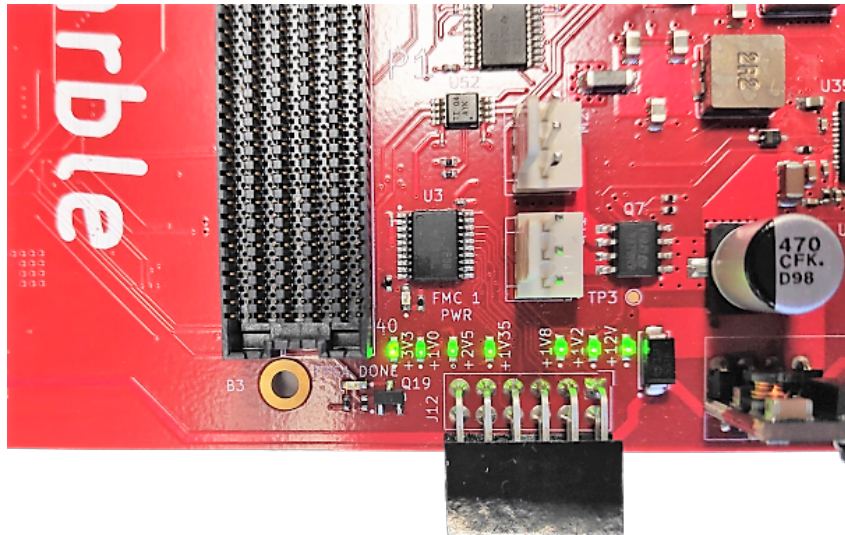

Figure 5: Power LED indicators after a successful power cycle.
6. All power LED indicators should be on (Figure 5).